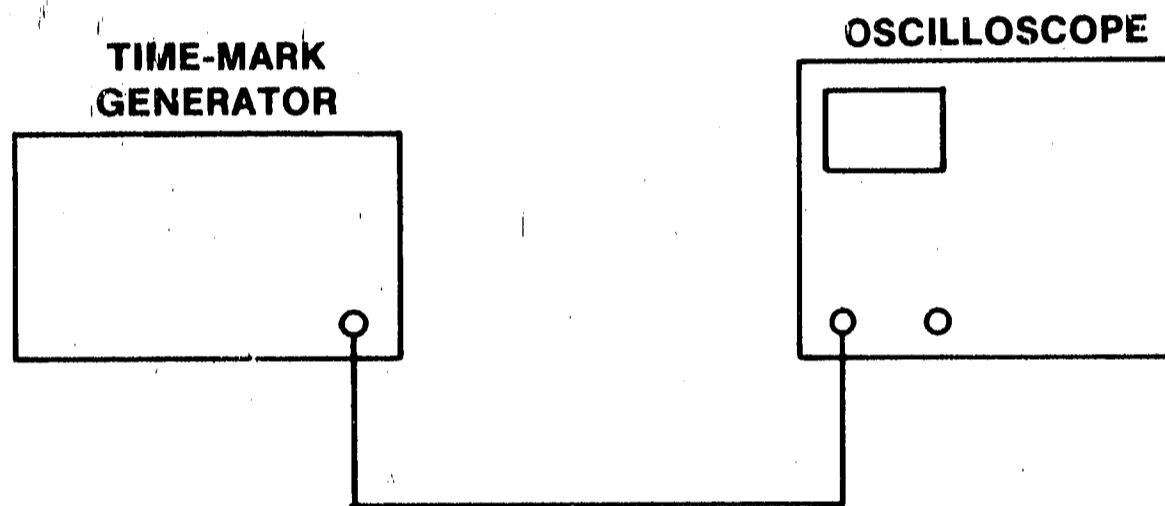

Figure 4-6. Differential Time Accuracy Test Setup
- a. Connect equipment as shown in figure 4-6.